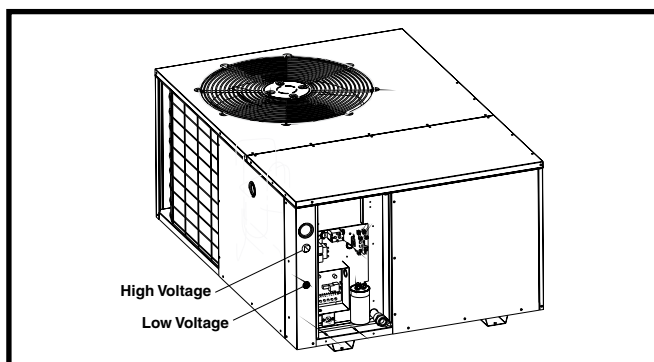

Figure 7. Power Entry
- Connect the line-voltage leads to the terminals on the contactor inside the control compartment. Extend leads through power wiring hole (Figure 7). Connect **L1 & L2** directly to the contactor.